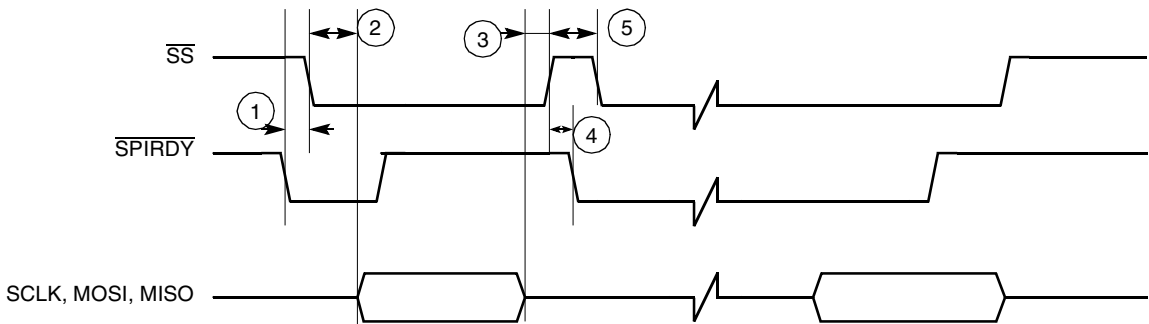
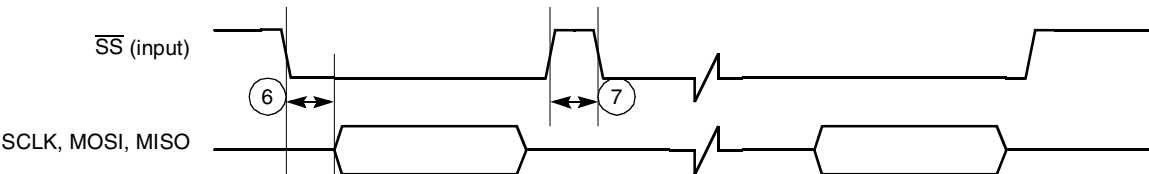

Figure 6. Master CSPI Timing Diagram Using SPI\_RDY Edge Trigger
Figure 10. Slave CSPI Timing Diagram FIFO Advanced by SS Rising Edge
**Table 14. Timing Parameters for Figure 6 through Figure 10**